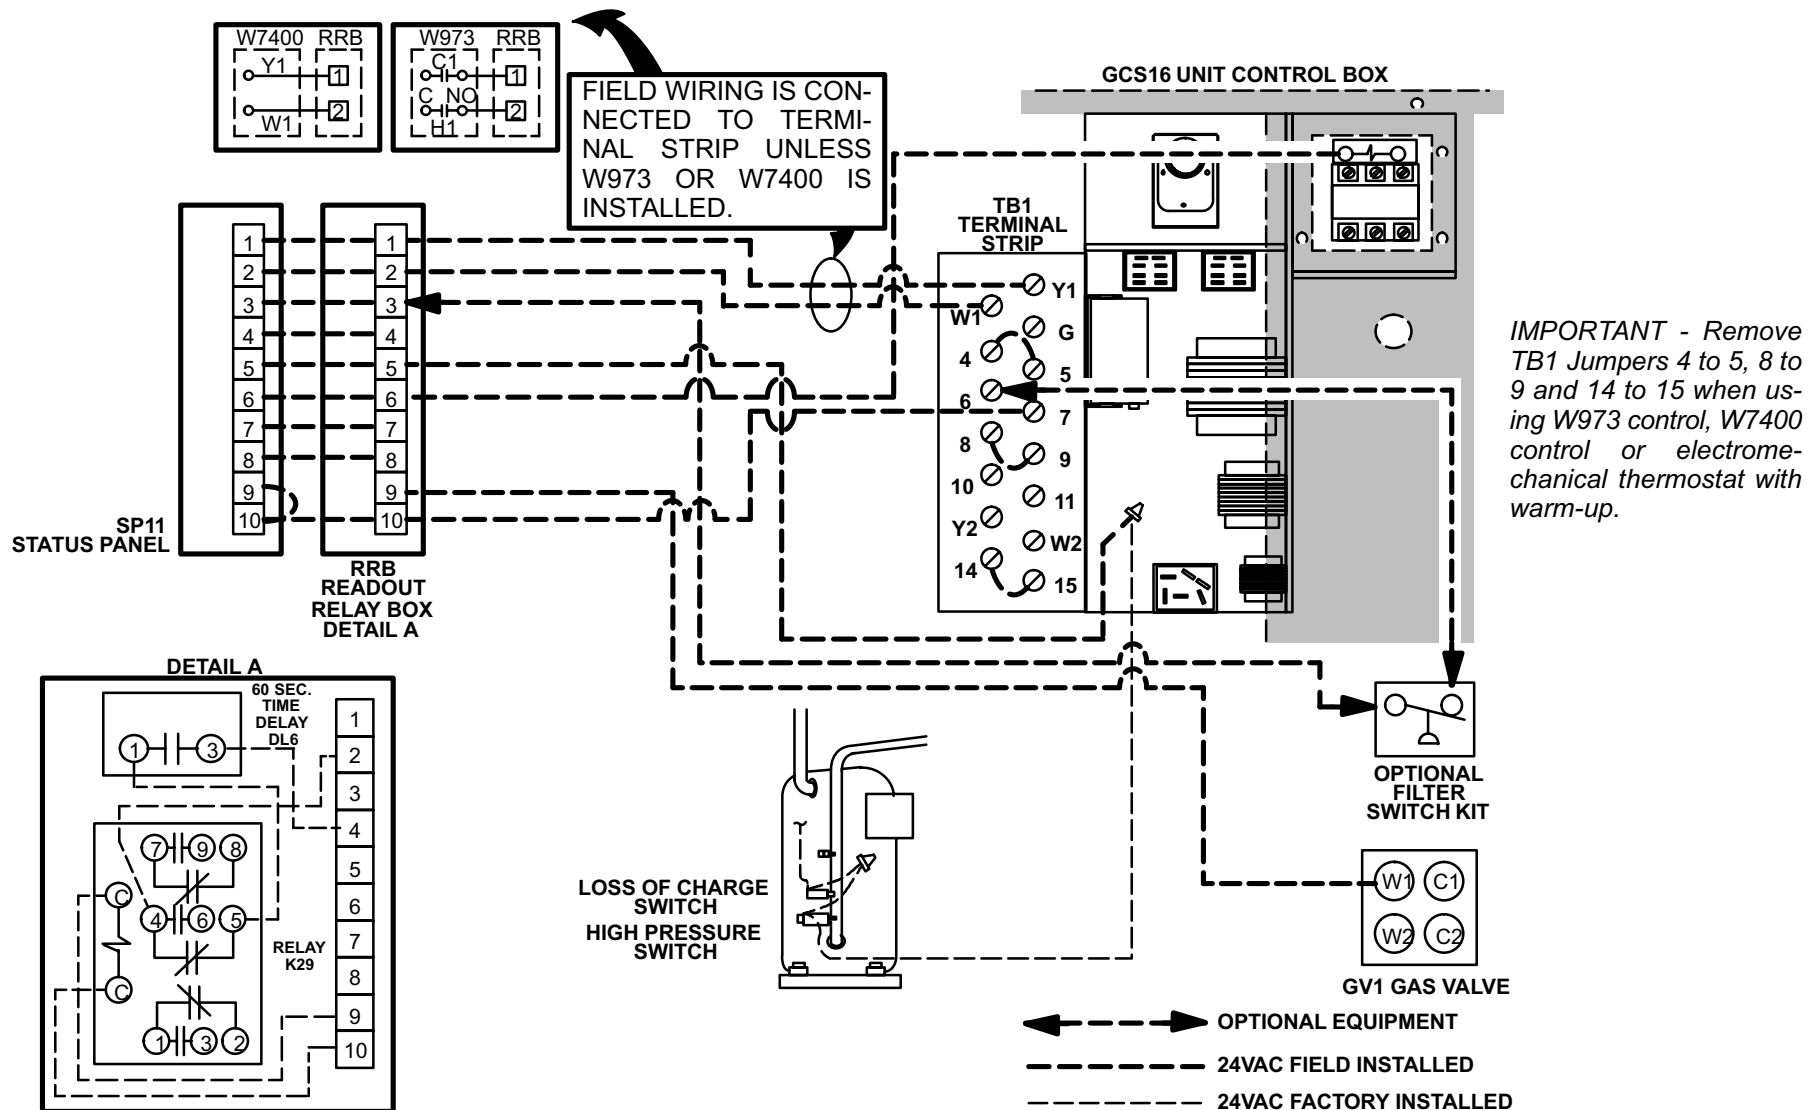

FIGURE 79
- 2- Make electrical connections as shown in figure 79.